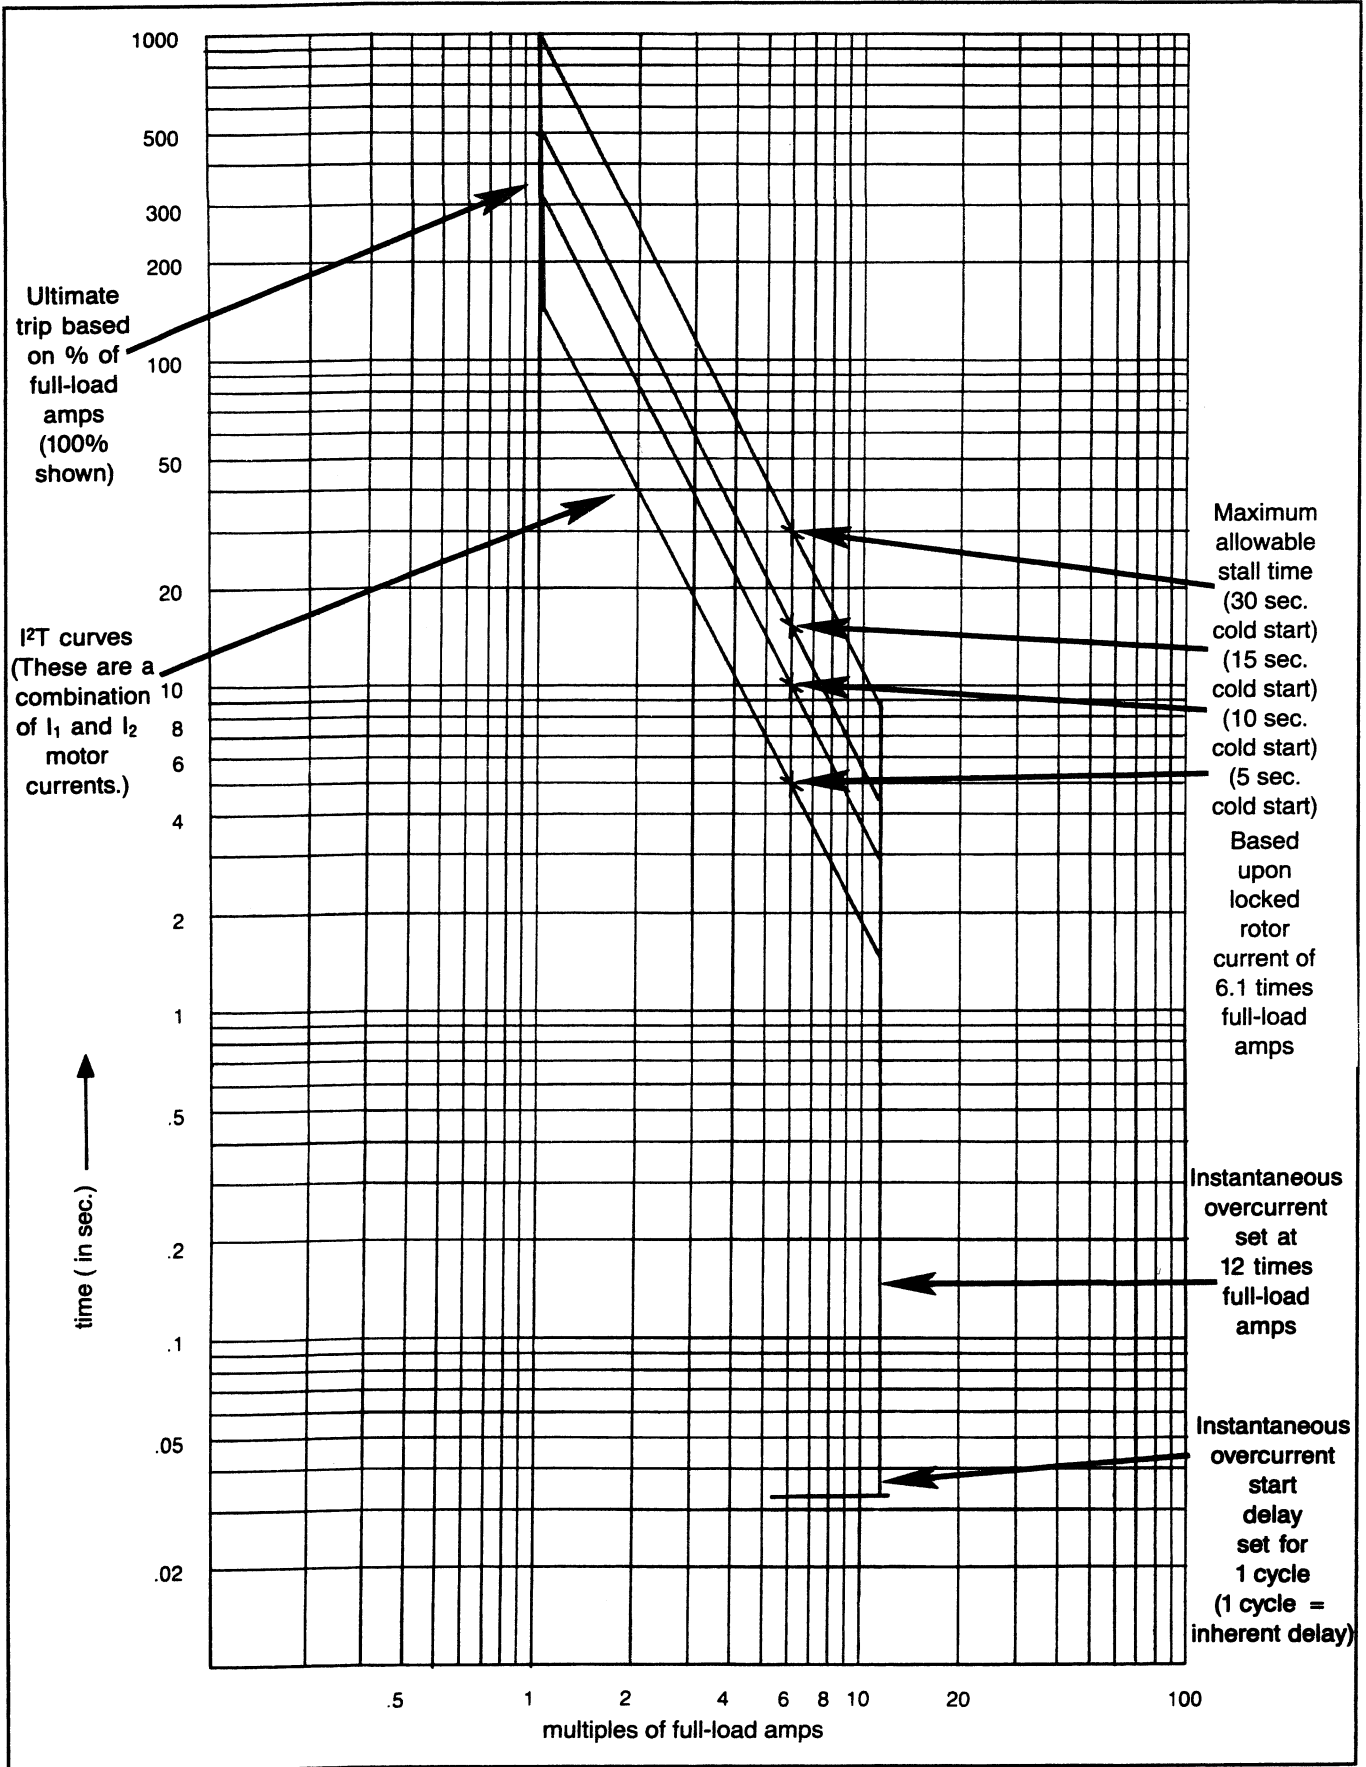

Figure 7.2 — Motor Protection Curve
point values. Note Figure 7.2. Ideally, this curve is located as close as possible to the motor damage curve, thus allowing maximum utilization of the motor without damage.
A brief discussion of how these values affect the motor protection curve is given in the following subparagraphs. The typical curve shown in Figure 7.2 is the result of the factors listed in these explanations.
7.1.3.1 Instantaneous Overcurrent Function — The specific instantaneous overcurrent (item 15) setpoint used in Figure 7.2 is 12 times (1200%) full-load amperes (item 42). In general, the instantaneous overcurrent setpoint for all applications should be at least 1.6 times the locked rotor current ratio. The instantaneous overcurrent setpoint available range is 300 thru 1600% of full-load amperes.
7.1.3.2 Locked-Rotor Function — The family of curves shown in Figure 7.2 is based upon a locked-rotor current point (item 17) of 6.1 times (610%) the full-load amperes function's (item 42) set point and a variable locked-rotor stall time set point (item 18).
All curves shown in Figure 7.2 are based on a maximum allowable stall time from a cold start. Since the IQ-1000 II's algorithm retains a history of both the operating current and operating time of the motor, it is not necessary to program it for hot starts. The unit automatically takes into consideration whether it is a hot or cold start. The locked-rotor set point, however, should be set for a cold start.